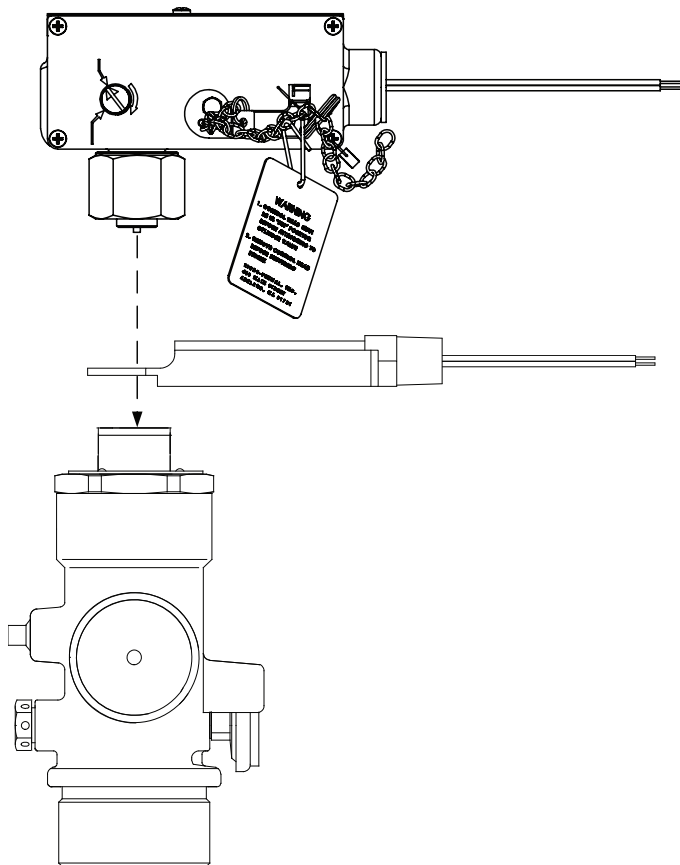
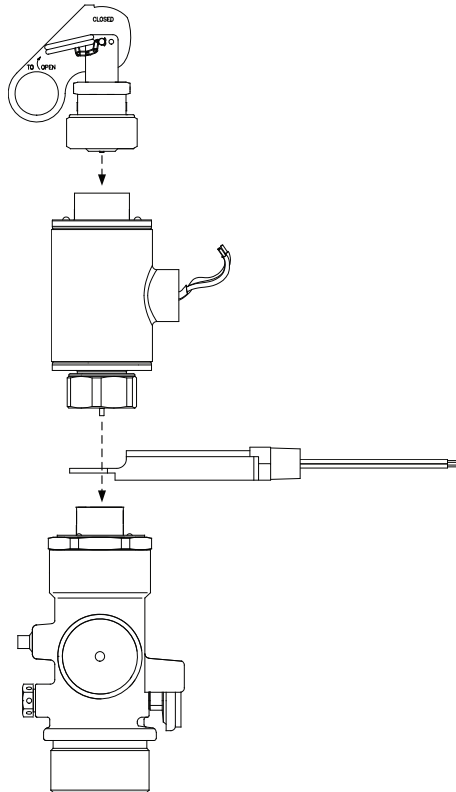

Figure 3. Order of Installation for Electric Control Head, P/N WK-890181-000
Figure 5. Order of Installation for Electric Control Head (Stackable Type), P/N 82-486500-010
2. Insert the Control Head Monitor (P/N 85-100000-001) between the control head and the cylinder valve as shown in Figure 3 for the Electrical Control Head and Figure 5 for the Stackable Electric Control Head.
13. Insert the Control Head Monitor between the control head and the cylinder valve. This is similar to the order of installation shown in Figure 3.